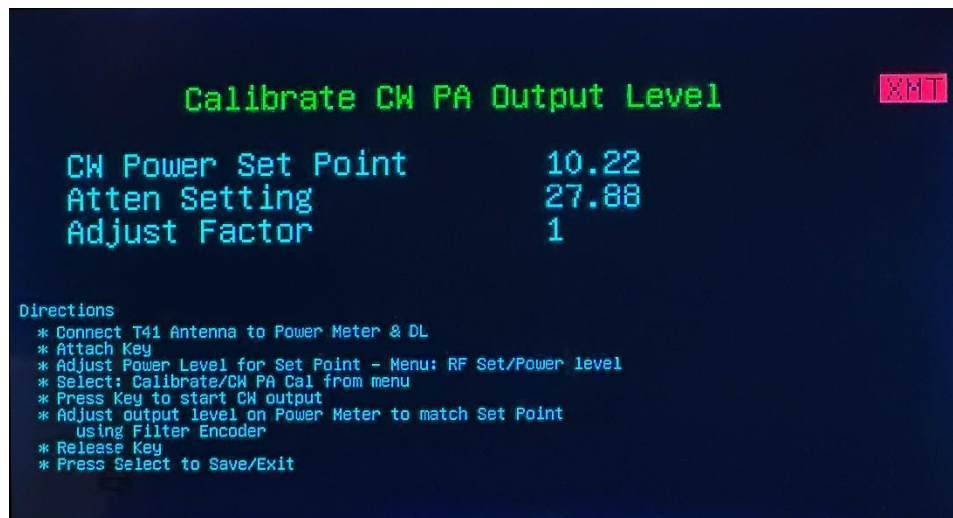

Figure 17 CW Power Calibration
- Figure 17 shows the CW Power Calibration screen.